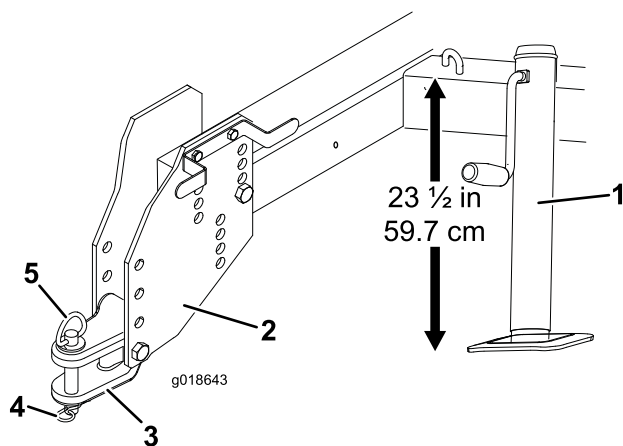

Figure 3
3. Adjust the jack so that the distance from the top of the frame to the ground is approximately 59.7 cm (23–1/2 inches) (Figure 3).
- Remove the bolts and locknuts securing the hitch tongue to the hitch plates (Figure 3).
6. Secure the hitch tongue to the prime mover hitch with the hitch pin and lynch pin (Figure 3).